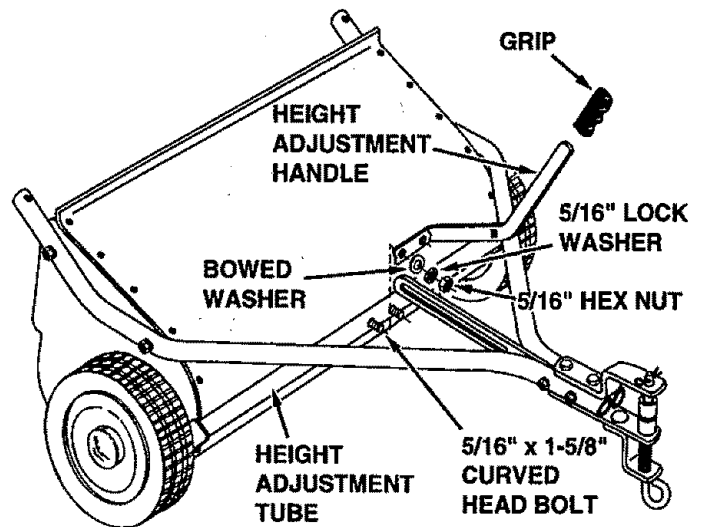

FIGURE 6
- Assemble the height adjustment handle to the height adjustment tube using the curved bolts, washers and nuts which come pre-assembled to the tube. Tighten the height adjustment handle so that the height adjustment strap is aligned with the outside of the handle. See figure 6.
- Assemble the grip onto the end of the height adjustment handle as shown in figure 6.